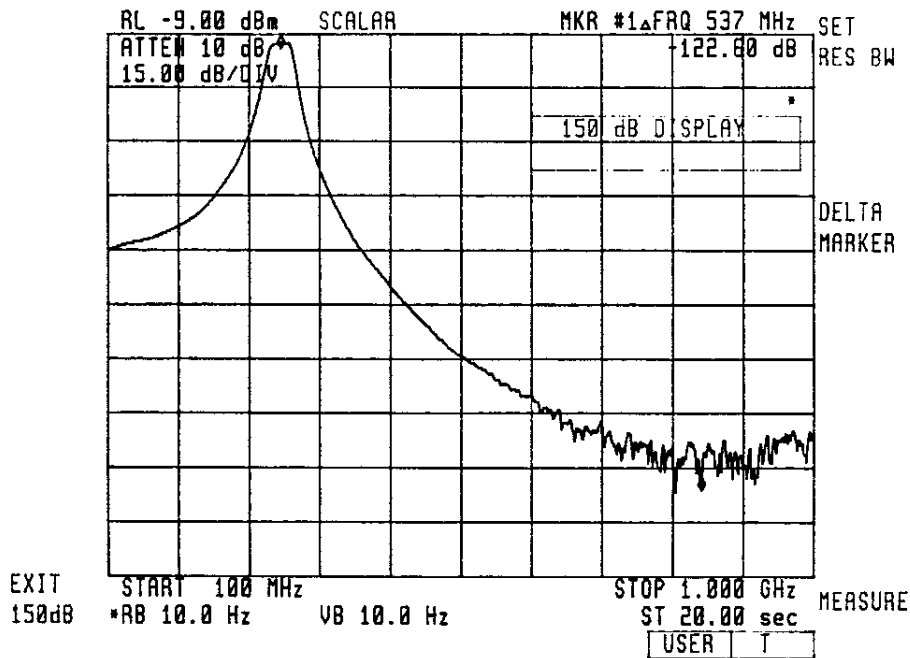

Figure 5-6. Stop-Band Rejection in 15 dB/Division Display
4. Press **MEASURE**. The routine first completes a *tracking adjust* (if required) to ensure proper frequency alignment of the tracking generator to the spectrum analyzer. Two sweeps are taken over different amplitude ranges. The trace information is then spliced together and displayed in 15 dB/division log scale. Note that two markers are positioned on the trace—one at the *highest peak* and the other at the *minimum peak*. Stop-band rejection may be read directly (Figure 5-6).